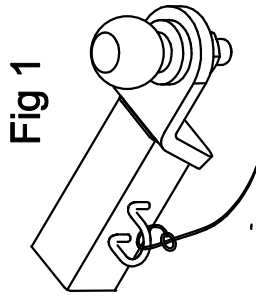

Fig 1
- a) Pass the cable through the attachment point and clip it back on itself (FIG.1)